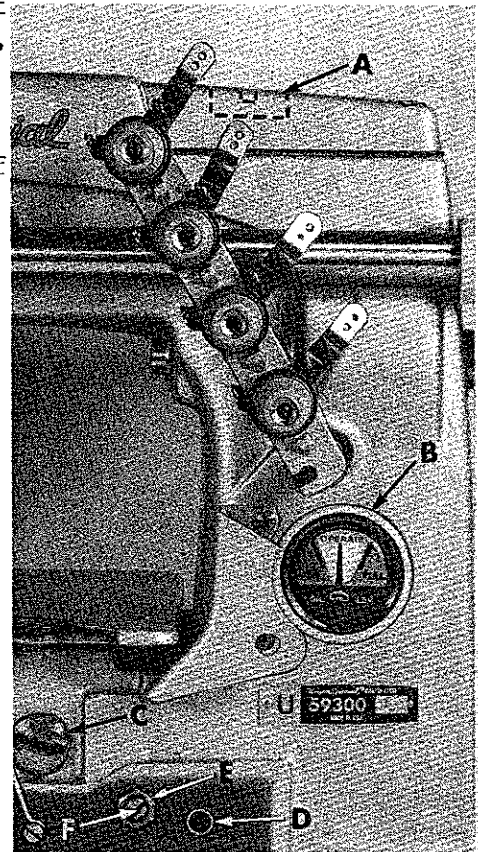

Fig. 1
**CAUTION!** Oil has been drained from the main reservoir before shipment, so the reservoir must be filled to the proper level at plug screw (A, Fig. 1) as indicated on oil gauge (B), before beginning to operate. The capacity of the reservoir is 12 ounces (340.2 gr.). Run machine slowly for several minutes to distribute the oil to the various parts. Full speed operation can then be expected without damage.
Use a straight mineral oil of a Saybolt viscosity of 90 to 125 seconds at 100° Fahrenheit in the main reservoir. This is equivalent to Union Special Specification No. 175. Fill main reservoir at plug screw in upper crank chamber cover (A, Fig. 1) and check oil level at gauge (B). Oil is at maximum safe operating level when needle is to the black line, located to the right of "OPERATE" zone, marked "FULL". Oil should be added when needle is to the black line, located to the left of "OPERATE" zone, marked "LOW". The recommended oil is available in 16 fluid ounce (453.6 gr.) cans No. 28604 R.
For machines in operation check the oil for dirt and lint deposits at reasonable intervals. If dirty, change the oil. An oil change is recommended every 2000 operating hours, or once a year. Oil may be drained from main reservoir by removing plug screw (C, Fig. 1) located below the cloth plate at front of the machine, or by removing the lower crank chamber cover, located at the back of machine.
A daily check before the morning start should be made, to see that the oil level is at a safe operating level, as outlined in the first paragraph. Oil which has gone through the machine is filtered and pumped back into the main reservoir, making too frequent oilings unnecessary. Excessive oil in the main reservoir may be drained by removing plug screw (C, Fig. 1) located below the cloth plate at the front of the machine. After draining oil, wipe the hole and plug screw dry, paint hole and screw with a little gasket cement, and re-assemble screw.
2. Remove the oil reservoir plug screw (C, Fig. 1) and tip machine forward to drain oil from the reservoir.
5. Fill main reservoir to a level even with the bottom contour of the knee press shaft bushing (D, Fig. 1).
6. Loosen locknut (E) on the calibrating screw (F), and turn the screw to the left or right until the gauge needle rests on the black line, located to the left of "OPERATE" zone, marked "LOW".
7. Tighten locknut (E) and replace plug screw (C) and lower crank chamber cover.